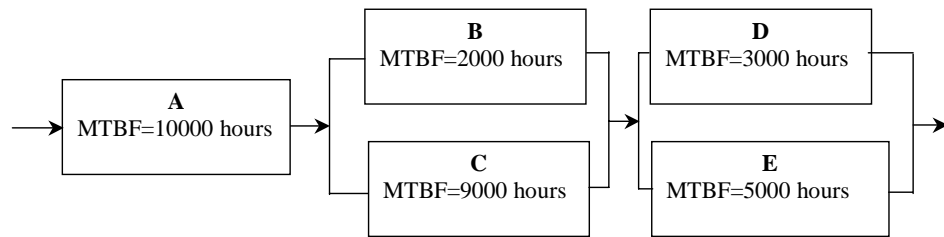

Figure 3.1
Determine the reliability, R , of the whole system in Fig. 3.1 if it is expected to operate for 1500 hours. (5)
- c. What is the reliability of the system in Fig. 3.1 if the MTBF of A is reduced to 8000 hours and an additional system, called F, is placed in parallel with system E with a MTBF of 4000 hours? (3)